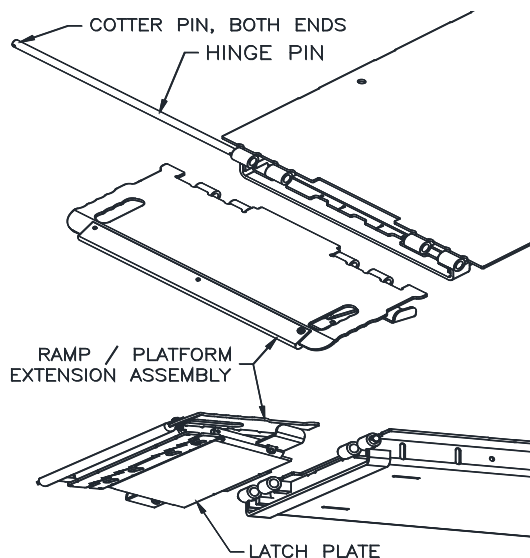

Fig. 3 INSTALLING THE RAMPS
3. Install each of the four (4) identical Ramp Assemblies using the 9/16" diameter Hinge Pin and two (2) Cotter Pins, **Fig. 3**. The Platform Extension Latch Plate should extend up inside the end of the Main Structure.